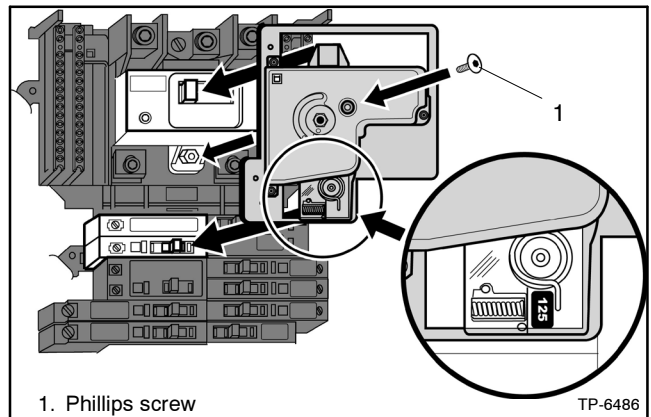

Figure 2-21 Mounting Transfer Mechanism
7. Mount the transfer mechanism, ensuring that the actuator spring is on the right side of the generator circuit breaker handle. Refer to Figure 2-21. Then secure it with one 8-32 x 1/2 in. Phillips screw. Torque the screw to 1.7 Nm (15 in. lb.).